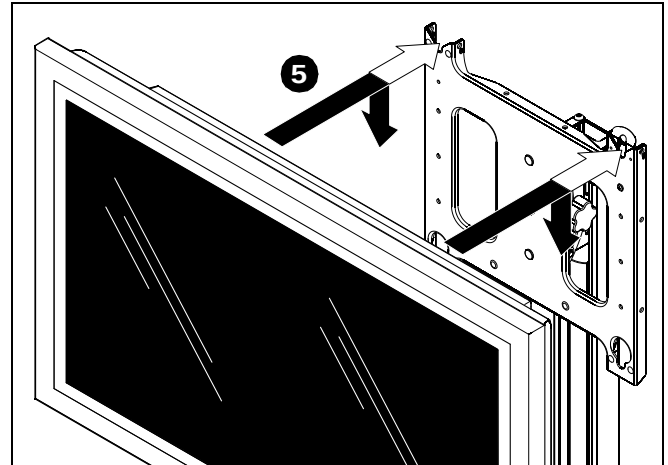

Figure 7
4. While supporting both sides of display, align four mounting buttons on display or interface bracket with four mounting holes in head assembly. (See Figures 7 and 8)
5. Lower display into place listening for audible "click" to ensure recessed area of mounting buttons are properly seated in lower area of mounting holes. (See Figures 7 & 8)